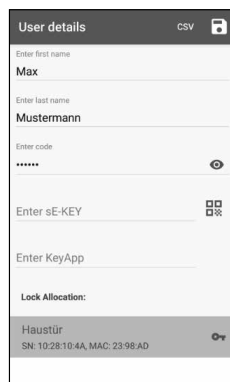

Fig. 57
- ⑤ The data view for the required user appears (Fig. 57).